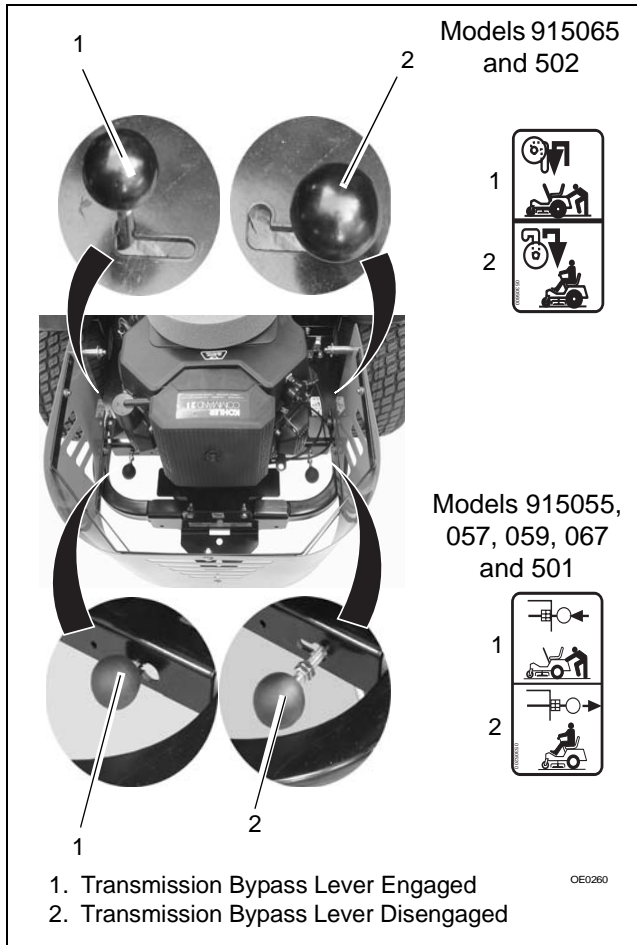

Figure 3
Disengage (2) transmission bypass levers to drive unit and engage (1) transmission bypass levers to push unit manually (Figure 3).